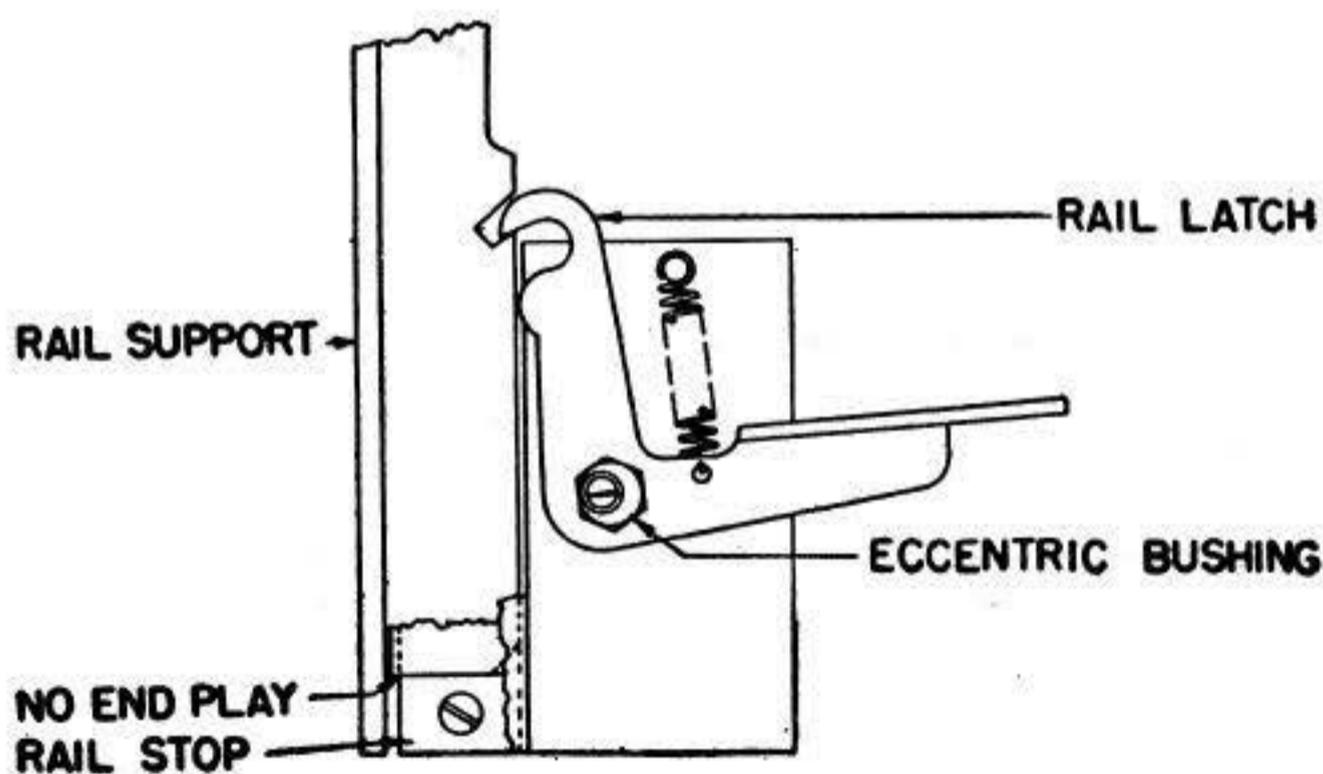

Fig 63
6.03 Panel Slide Latch: There should be no endplay between the rail support and the rail stop with the rail in its latched position. **Fig 63**